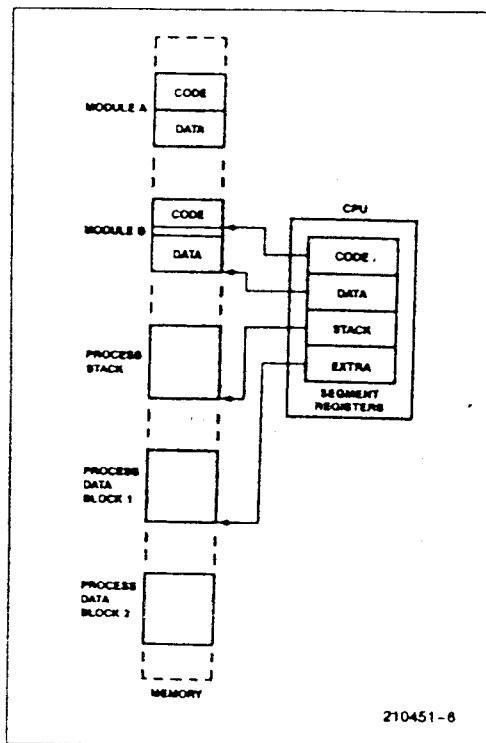

FIG. 18 Segmented Memory Helps Structure Software
The BIU contains four 16-bit Segment Registers they are Code Segment Register (CS), Stack Segment Register (SS), Extra Segment Register (ES) and Data Segment Register (DS). These segment Registers are used to hold the upper 16 bits of the starting addresses of four memory Segments that the 80186 is working at a particular time. The BIU Sends out 20-bit address capable of addressing 1 MB of Memory. However at any given time 80186 works only with four 64 KB segments, pointed to by base addresses in the four segment registers as shown in fig.18. An Instruction pointer (IP) register is used to hold an offset which must be added to the base address in CS to produce the 20-bit physical address. The two 16-bit numbers are not added directly in line. The contents of the CS Register are shifted left four bit positions before the contents of the IP are added to it.